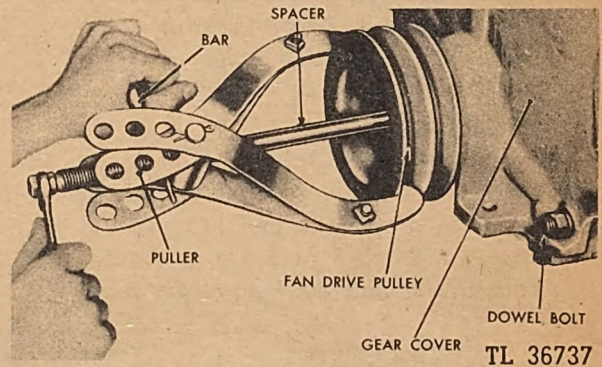

Fig. 85. Pulling Crankshaft Pulley
(1) With a puller, pull the crankshaft pulley from the crankshaft. (See Figure 85.)